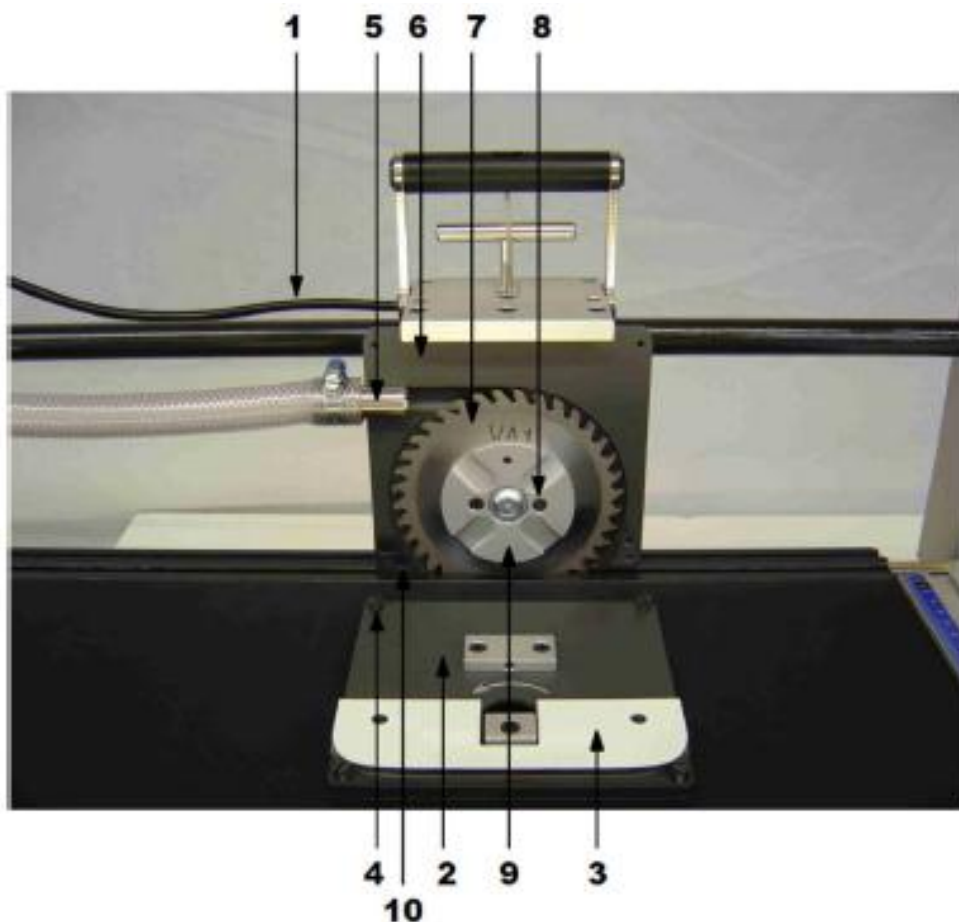

Figure 51 Replacing the saw blade
4. Remove the front saw blade cover (2, Figure 51).
5. Remove screws M4x16 (item 8, Figure 51) from the holder cover for saw blade (item 9, Figure 51) and store them securely.
6. Remove mounting cover (9, Figure 51).